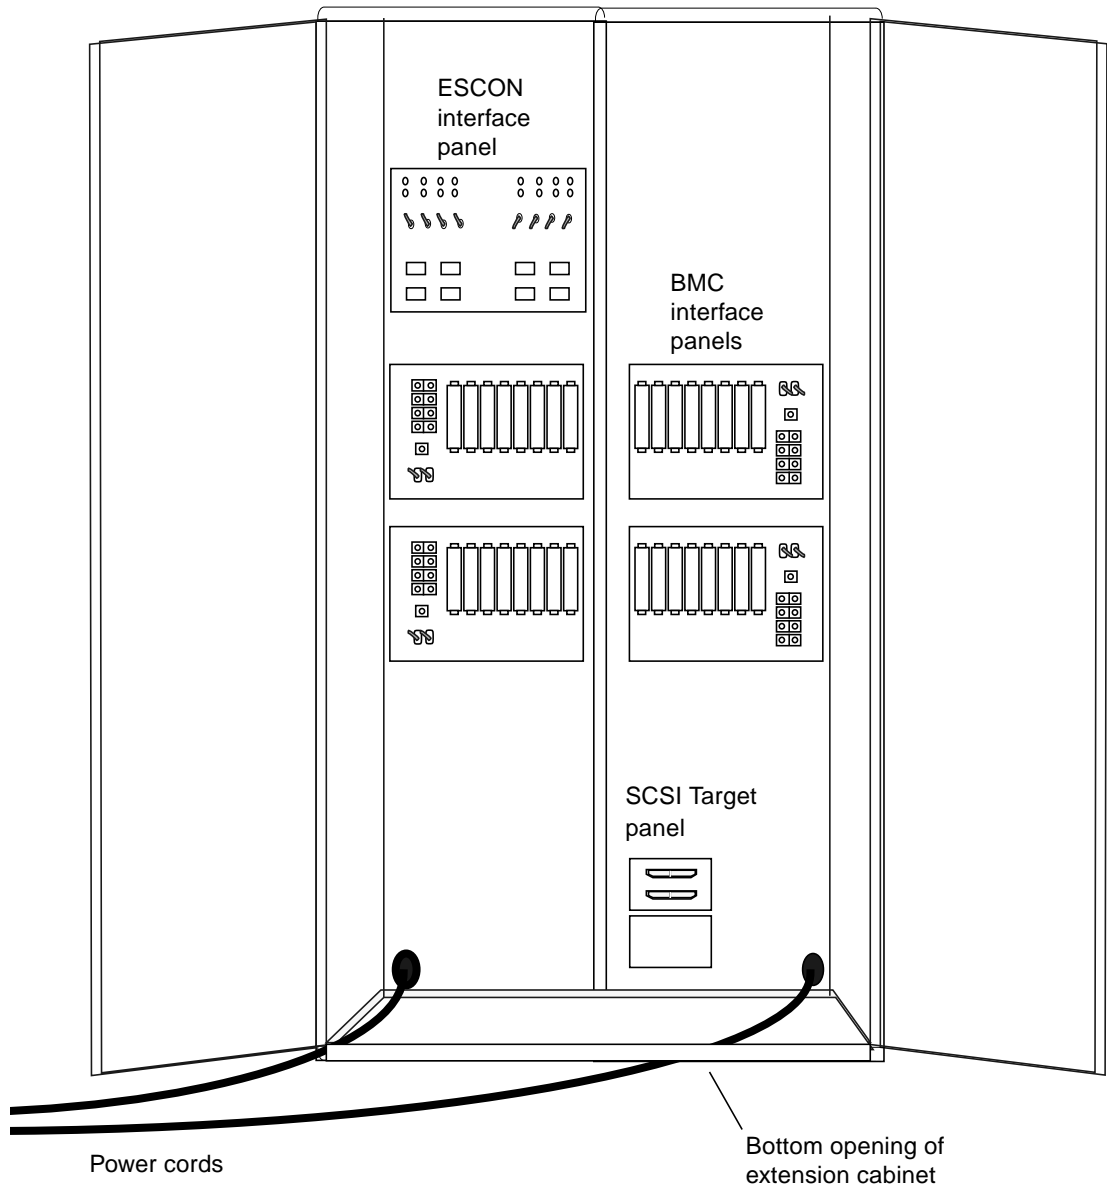

FIGURE 6-5 I/O Bay Cabinet, BMC Interface Panels, ESCON Interface Panels
Note that the right two panels are upside down (also see FIGURE 6-5). Each panel includes one online toggle switch for each channel. Each interface panel is clearly marked with labels similar to DSP1/EB00, where DSP1 is the chassis where the BMC card resides, and EB00 is the BMC card's base address as set on the PCB. To install the BMC cables:
- 1. Run the cables through the opening in the bottom of the extension cabinet, as shown in FIGURE 6-5.**
- 4. Put each interface panel channel online by placing each toggle switch in the online (1) position. These switches are spring-loaded—pull out and hold the top of the switch, move it to online, and then release it.**
1. **Run the cables through the opening in the bottom of the extension cabinet. See FIGURE 6-5.**
3. **Put each channel online by placing each toggle switch in the online (1) position. These switches are spring-loaded—pull out and hold the top of the switch, move it to online, and then release it.**
Inside the I/O Bay cabinet is at least one Small Computer Systems Interface (SCSI) target channel transition interface. See FIGURE 6-5. (There will be more if more channels are configured in your system). There are two connectors per panel.